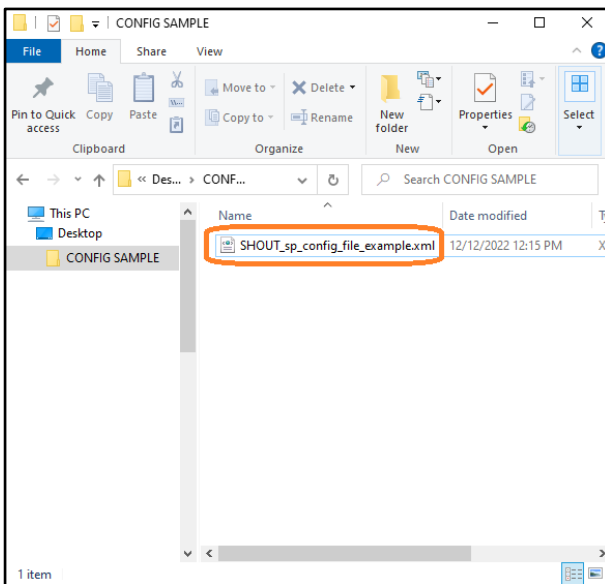

Figure 83: Find the XML file
*SHOUT\_sp\_config\_file.xml* (see **Figure 83**).
9. Right-click over **SHOUT\_sp\_config\_file.xml** (see **Figure 83**).